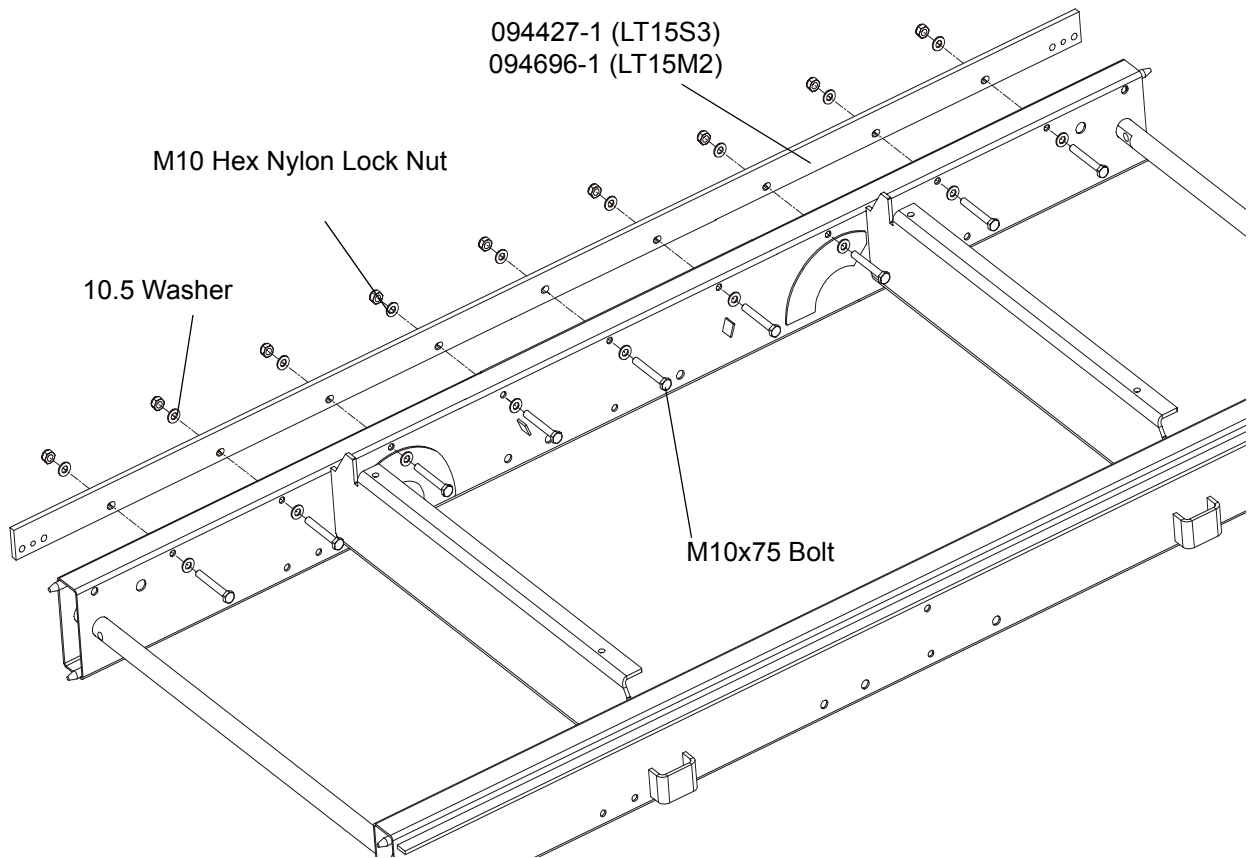

FIG. 2-2
1. Mount preliminarily the track rail as shown in Figure 2-2. Do not tighten the nuts.
See Figure 2-2.